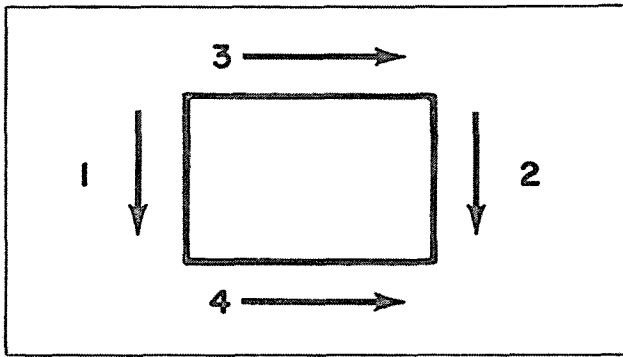

Fig. 1. Welding Sequence for Patch
2. Fit a patch of 3/16" or 1/4" thick steel over the area to be sealed. Tack this patch in place, then weld it to the transformer case by welding the sides first, vertically downward, then horizontally across the top of the patch and finally horizontally across the bottom. This welding sequence is recommended to prevent any liquid interfering with or contaminating the weld. (See Figure 1.)